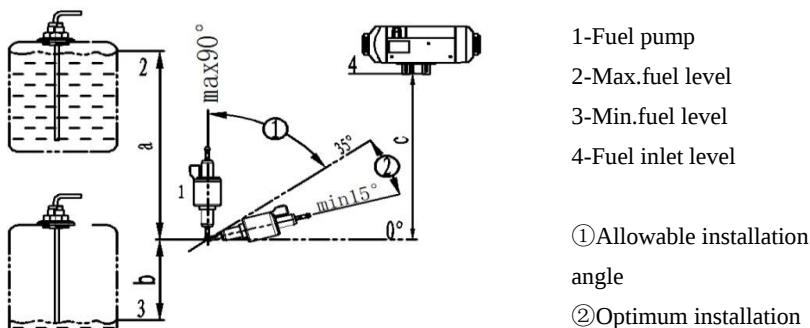

Fig.15
4.4.1 The fuel pump shall be fixed in automobile with a fuel pump clamp with protective rubber cover. The outlet of the fuel pump shall tilt upwards. The tilt angle can be selected from the range of $15^\circ \sim 35^\circ$ (as shown in Fig. 15). When conditions permit, the fuel pipe between the fuel pump and the heater shall go up gradually.
4.4.3 Difference in elevation between the level of fuel and the fuel pump as well as the difference in elevation between the fuel pump and the fuel inlet of the heater can produce pressure (or suction) in the fuel pipeline(See Fig.15).So, these dimensions shall conform to the requirements as follows: